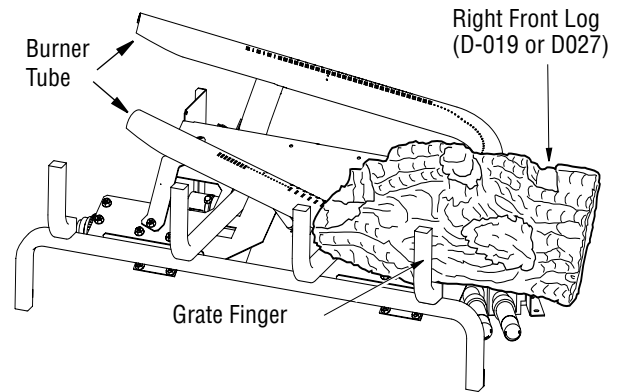

Figure 18 - Installing Right Front Log
1. Find the right front log (SouthernComfort30A/B or ShadyHollow30A/B models: D-019, SouthernComfort36A/B or ShadyHollow36A/B models: D-027). See **Figures 18, 18A, 18B, and 18C** for reference. The log has a rectangular shape on the bottom that fits against the lip on the black metal base, the square grate, and the round tube burner. Slide the log in place as shown in Figures.